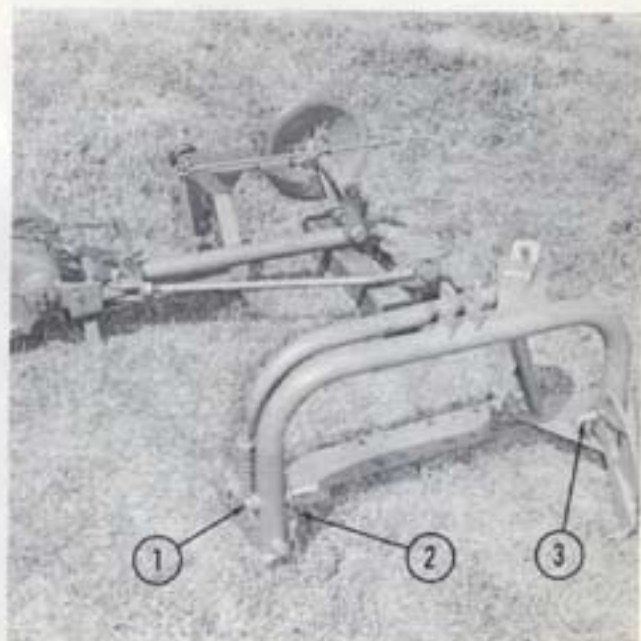

Fig. 55 Fifth Stage of Assembly
8. Take the frame group and attach the lift arm by means of the left hitch pin (No. 3, Fig. 55).^{*} Attach the right hitch pin and safety release check chain Nos. 1 and 2, Fig. 55.